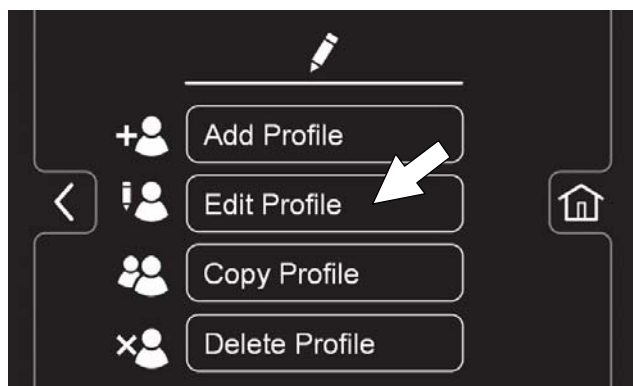

FIG. 183
3. Press the Edit Profile button (Figure 183).